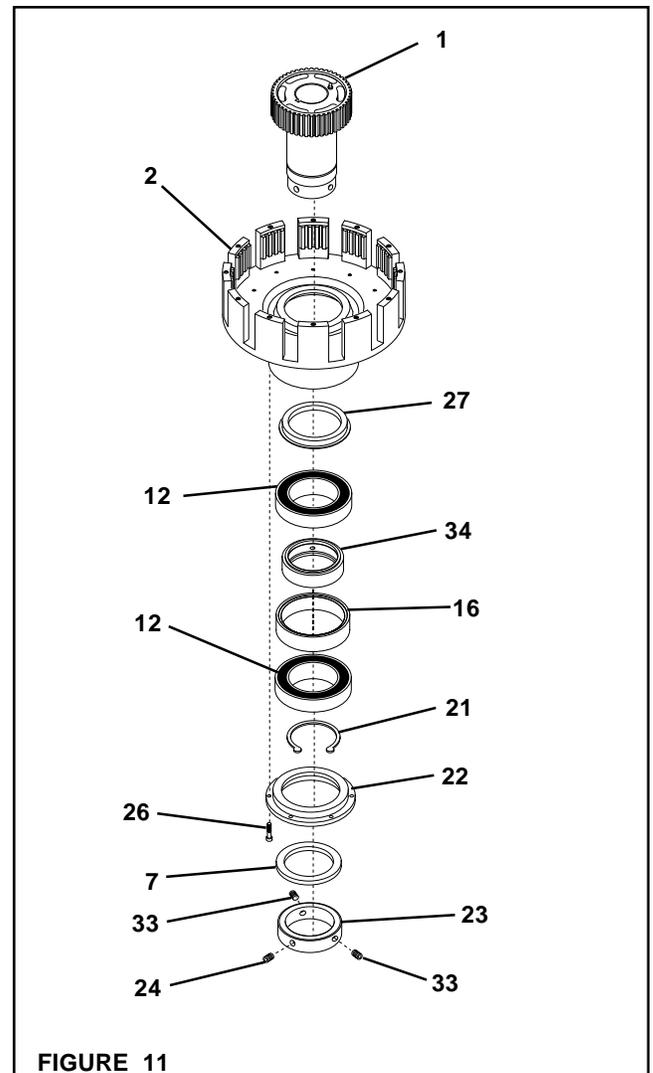

FIGURE 11
3. Remove the three Set Screws (Items 24 and 33) and the Hub Locking Collar (Item 23) (See Figure 11).
4. Remove the six Socket Head Cap Screws (Item 26) (See Figure 11).
5. Remove the Seal Seat (Item 22) and the old Rotary Seal (Item 7) (See Figure 11).
6. Remove the Retaining Ring (Item 21) (See Figure 11).
7. Press the Hub (Item 1) out of the Ball Bearings (Item 12) and Pilot Housing (Item 2) (See Figure 11).
8. Press the two old Ball Bearings (Item 12) and Spacers (Items 16 and 34) out of the Pilot Housing (Item 2) (See Figure 11).
9. Press the old Rotary Seal (Item 27) out of the Pilot Housing (Item 2) (See Figure 11).
11. Press a new Rotary Seal (Item 27) into the Pilot Housing (Item 2) (See Figures 11 and 12).
12. Apply an adequate amount of Loctite® 680 to coat the outer race of the first new Ball Bearing (Item 12) and press it into the Pilot Housing (Item 2) (See Figure 11).
13. Reinstall the Spacers (Item 16 and 34) (See Figure 11).
14. Apply an adequate amount of Loctite® 680 to coat the outer race of the second new Ball Bearing (Item 12) and press it into the Pilot Housing (Item 2) (See Figure 11).
15. Support the inner and outer races of the Ball Bearings (Item 12) and press the Hub (Item 1) back into the Ball Bearings (Item 12) and Pilot Housing (Item 2) (See Figure 11).
16. Reinstall the Retaining Ring (Item 21) (See Figure 11).
17. Reinstall the Seal Seat (Item 22) (See Figure 11).
18. Apply a drop of Loctite® 242 to the threads of the Socket Head Cap Screw (Item 26); then, install the Socket Head Cap Screw (Item 26) (See Figure 11).
19. Tighten the Socket Head Cap Screw (Item 26) to 12 Ft. Lbs. [16.19 N•m] torque (See Figure 11).
20. Press a new Rotary Seal (Item 7) into the Seal Seat (Item 22) (See Figures 11 and 12).